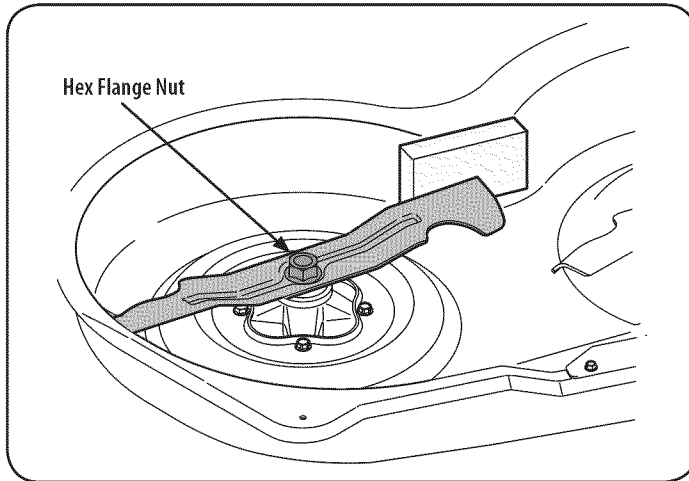

Figure 28
2. Place a block of wood between the center deck housing baffle and the cutting blade to act as a stabilizer. See Figure 28.